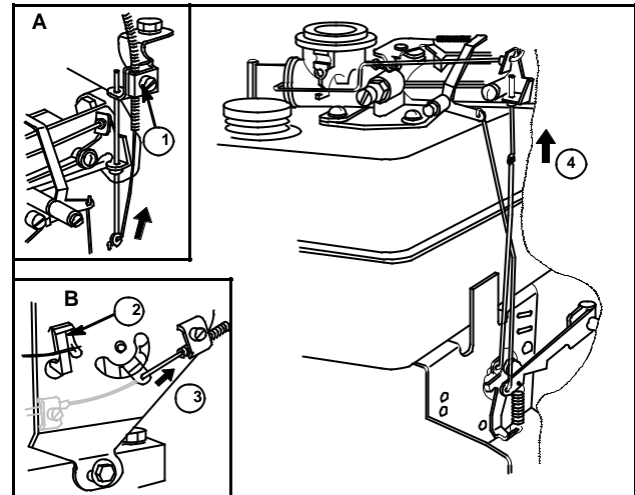

Fig. 57
Choke-A-Matic remote control mounted on top of engine showing casing clamp (1), (inset A), and direction cable moves to close choke. Choke-A-Matic remote control (inset B) showing stop switch (2) direction to choke, (3), and movement of linkage to close choke, (4), Fig. 57.